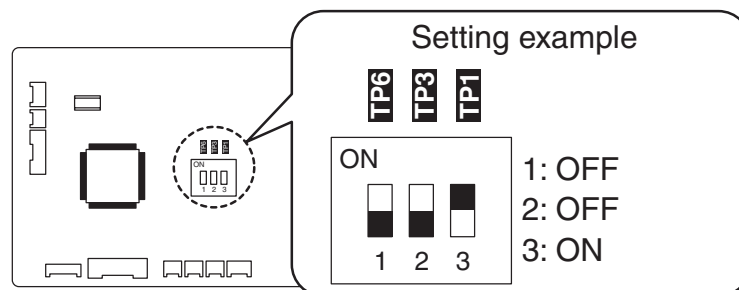

Fig. 2-6
- ① Open the electrical component box cover, then check the indoor unit control PCB. (Fig. 2-6)
- ② Connect the jumper connector (2P: yellow) which was supplied with the accessory to the correct connector pin on the indoor unit control PCB according to the setting number which was confirmed in Table 2-2 (Table of DC Fan Motor Tap Settings).
- If the setting No. is (1), then connect the jumper connector to the connector pin TP1 (2P: red) on the indoor unit control PCB.
- If the setting No. is (3), then connect the jumper connector to the connector pin TP3 (2P: yellow) on the indoor unit control PCB.
- ② Change the DIP switch on the indoor unit control PCB in accordance with the setting number which was confirmed in Table for DC Fan Motor Tap Settings.